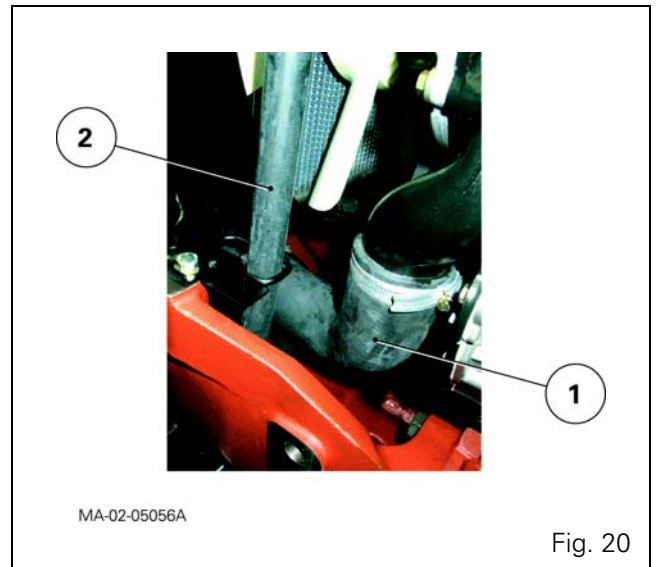

Fig. 20
- 44. Disconnect the lower radiator hose (1) and the hose (2) linking the expansion tank to the base of the radiator (Fig. 20).